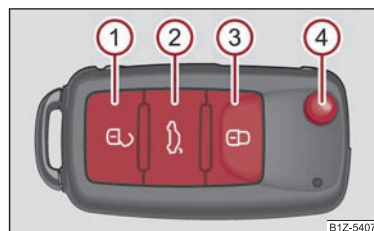

Fig. 31 Remote control key
- Press the button **1** ⇒ fig. 31 for about 1 second.